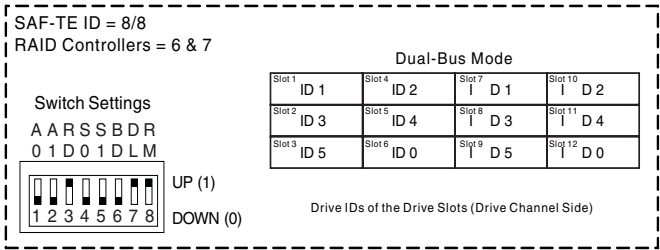
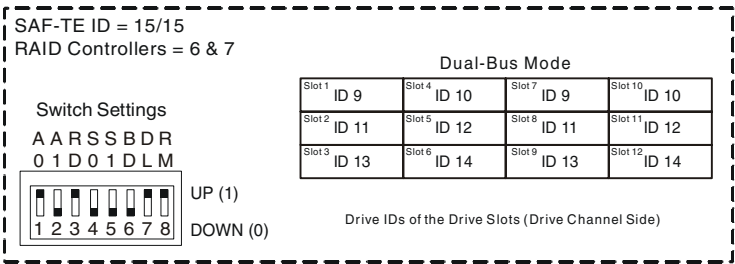

Figure C-4 Switch Setting – Option 1
Figure C-5 Switch Setting – Option 2
- 2 Locate the switches on each card and set them as shown in either Figure C-4 or Figure C-5.